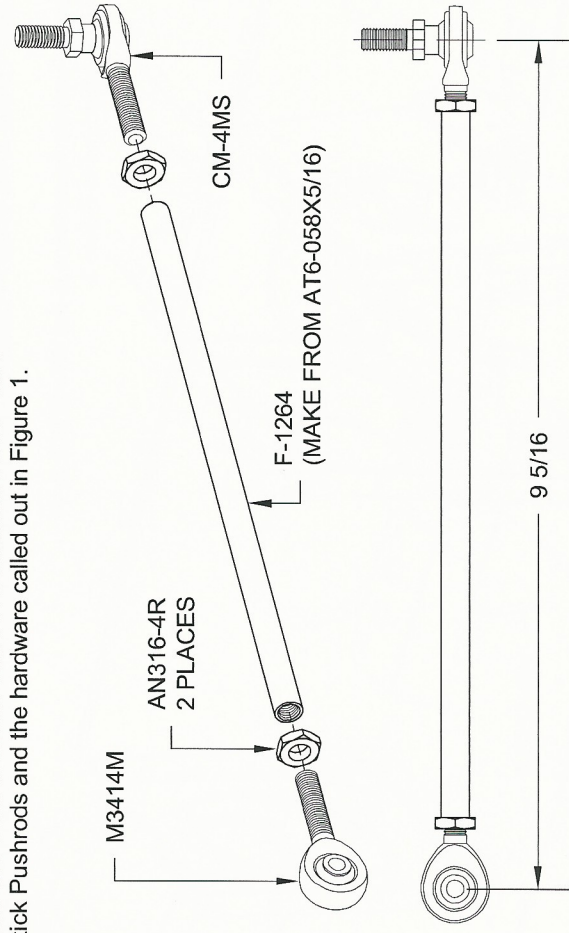

FIGURE 1: CONTROL STICK PUSHROD ASSEMBLY
Step 1: Make two Control Stick Pushrod Assemblies from F-1264 Control Stick Pushrods and the hardware called out in Figure 1.